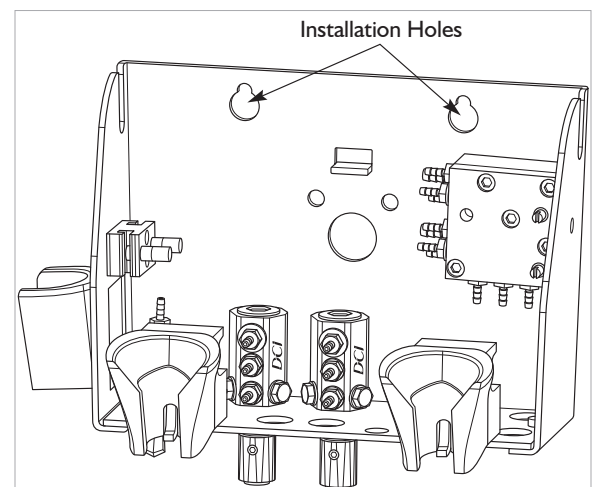

FIGURE 2
2. **Chassis:** Install dental delivery system chassis to wall using the two outside holes provided in the back of the chassis on a surface that will support the weight of the dental delivery system using appropriate fasteners for the material the dental delivery system is being mounted to. See Figure 2.